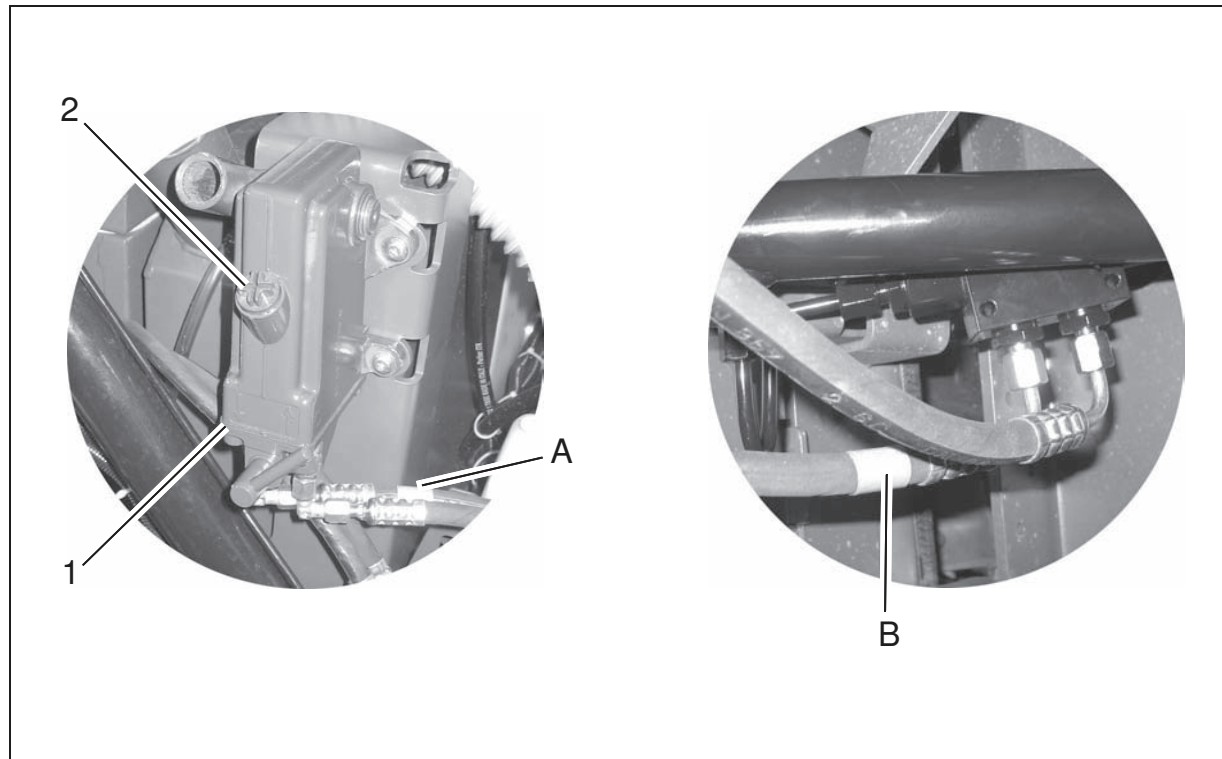

Fig. 6
7. Lay both hydraulic hoses (Fig. 6/A and B) from the hand pump (Fig. 6/1) underneath the valve manifold to the front up to the hydraulic cylinder (Fig. 6/2).
9. Open the oil filling neck (Fig. 6/2) in the hand pump and fill hydraulic oil, e.g. Mobiloil: DTE 25. Fill quantity: approx. 0.5 liters. Oil level: bottom edge of the filling neck.